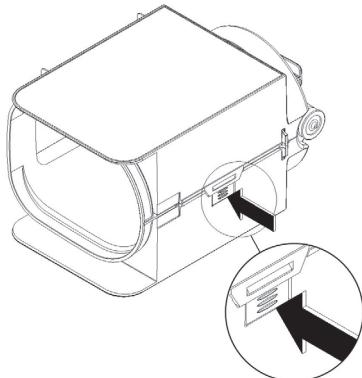

figure 9
- 1** Click open the two parts. (see figure 9).